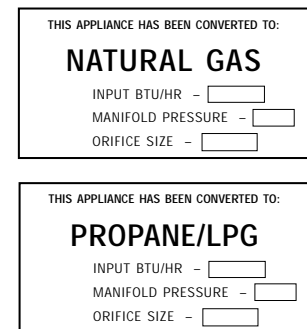

Figure 6
**Step 7.** Attach appropriate conversion kit label (*Figure 6*) to the rating plate on the appliance.